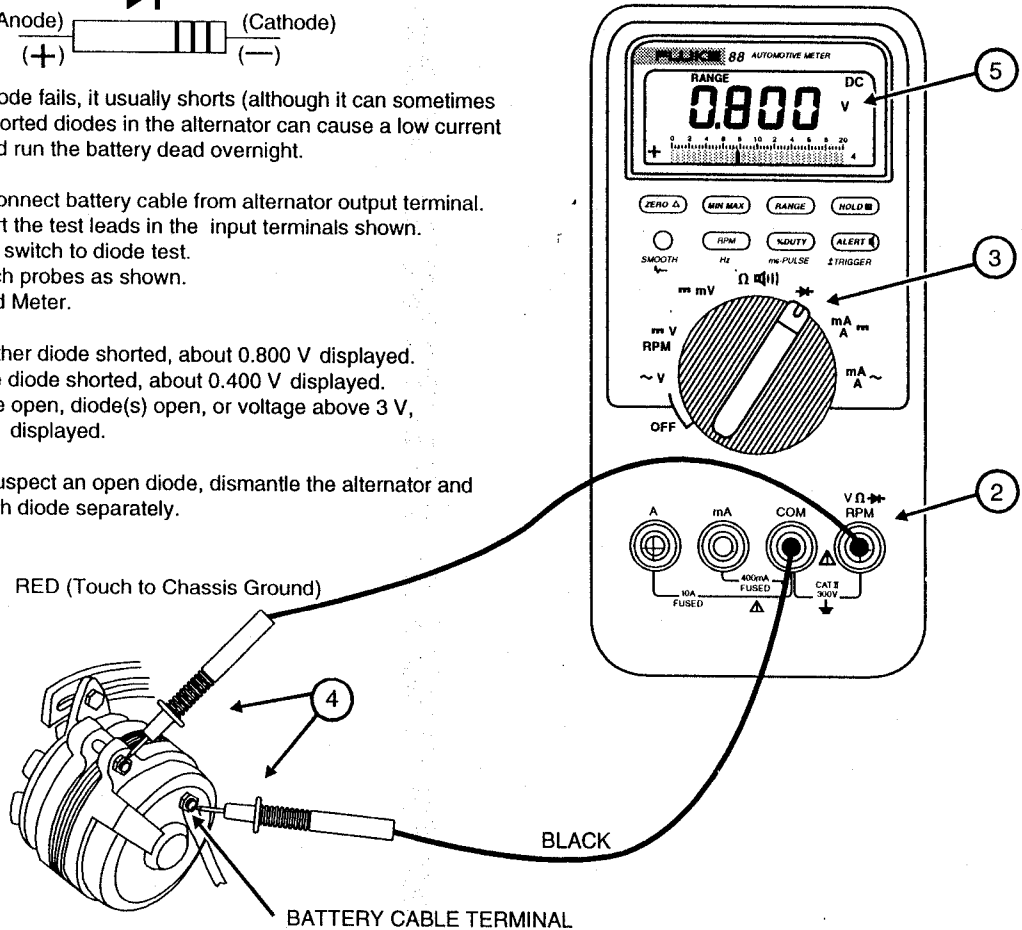

Figure 7. Testing Diodes on Alternator
3. Touch the red probe to the positive side of the diode and the black probe to the negative (see Figure 7). Read the display.
Figure 7 shows how to check two diodes in series in an alternator.
The procedure in Figure 7 is not valid for avalanche diodes found in many late model GM cars.